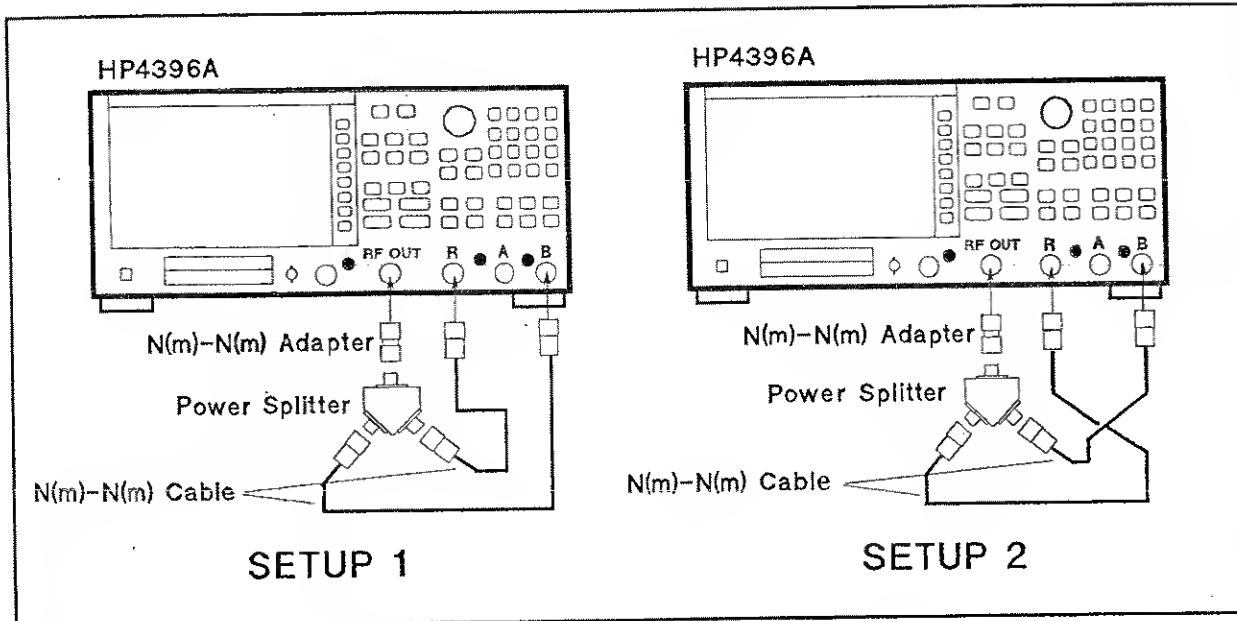

Figure 2-17. B/R Magnitude Ratio/Phase Frequency Response Test Setup
- Connect the test equipment as shown in setup 1 of Figure 2-17.
e. Reverse the cable connections of the HP 4396A B and R inputs as shown in setup 2 of Figure 2-17.
o. Connect the test equipment as shown in setup 1 of Figure 2-17.